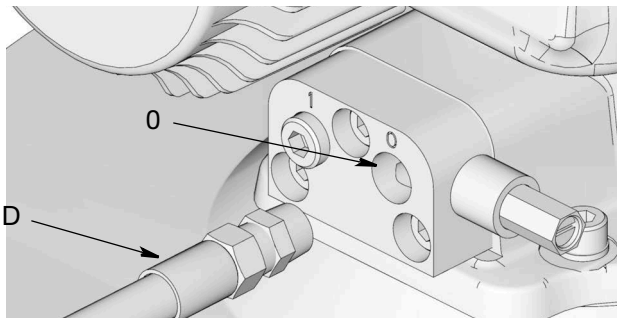

FIG. 11: Lubricant Outlet Connection
8. Connect the timer/controller (F) (user supplied, if used).
9. Connect High pressure lubricant supply line (D) to the lubricant output connection (O) (FIG. 11) on the vent valve or manifold.